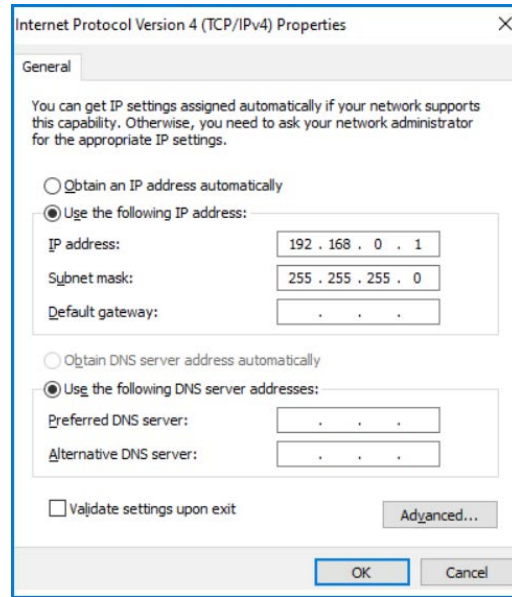

Fig. B.2 – TCP/IPv4 properties window in Windows OS
3) Select "Internet Protocol (TCP/IPv4)" from the list of connection components in the next window. Make sure that the component is enabled (flagged in the list). Click "Properties". The TCP/IPv4 properties window opens (see Fig. B.2).